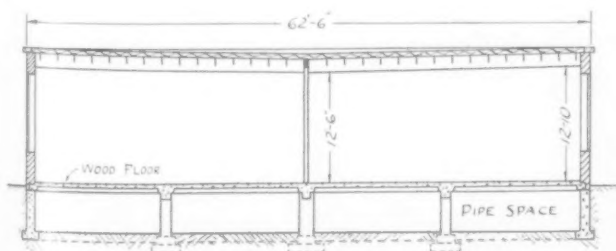

Fig. 1. Cross-Section of the Structure
**Foundation.**—The floor is set on reinforced concrete piers spaced 19 ft. by 15 ft. (see Fig. 1). A 4-ft. pipe-space facilitates changes in plumbing.